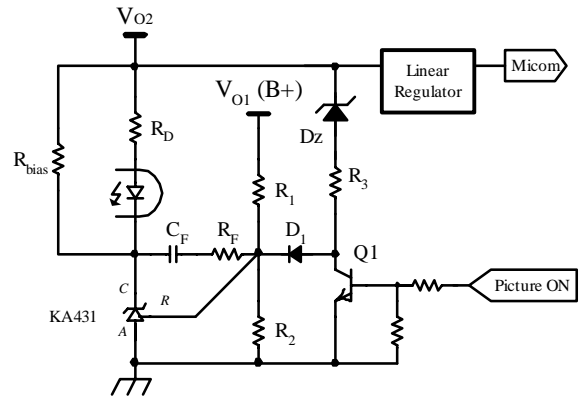

Figure 15. Typical feedback circuit to drop output voltage in standby mode
6. Burst operation : In order to minimize the power consumption in the standby mode, FSCQ0765RT employs burst operation. Once FSCQ0765RT enters into burst mode, FSCQ0765RT allows all output voltages and effective switching frequency to be reduced. Figure 15 shows the typical feedback circuit for C-TV applications. In normal operation, the picture on signal is applied and the transistor Q1 is turned on, which de-couples R3, Dz and D1 from the feedback network. Therefore, only V_{O1} is regulated by the feedback circuit in normal operation and determined by R1 and R2 as